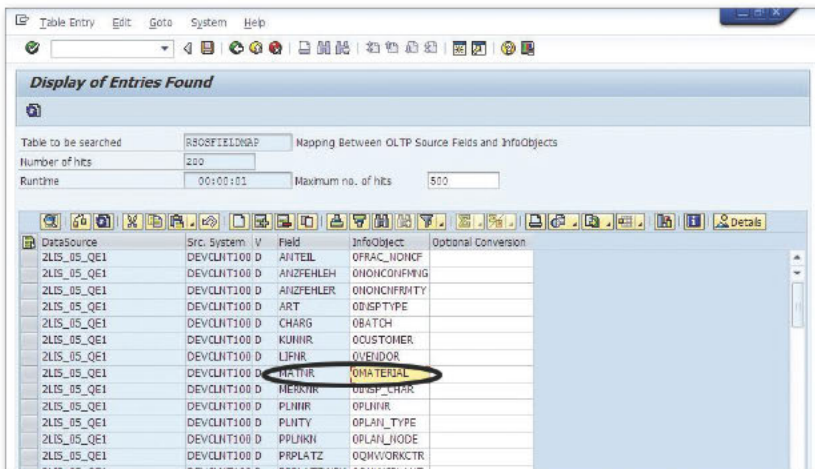

Figure 2 Display of Entries for Transaction SE16N for Table RSOSFIELDMAP
5. Click the EXECUTE button. The resulting screen in Figure 2 displays the mapping of all the DataSource fields and the corresponding InfoObject. For instance, you can see the standard INFOOBJECT OMATERIAL and the corresponding DATA-SOURCE field MATNR.